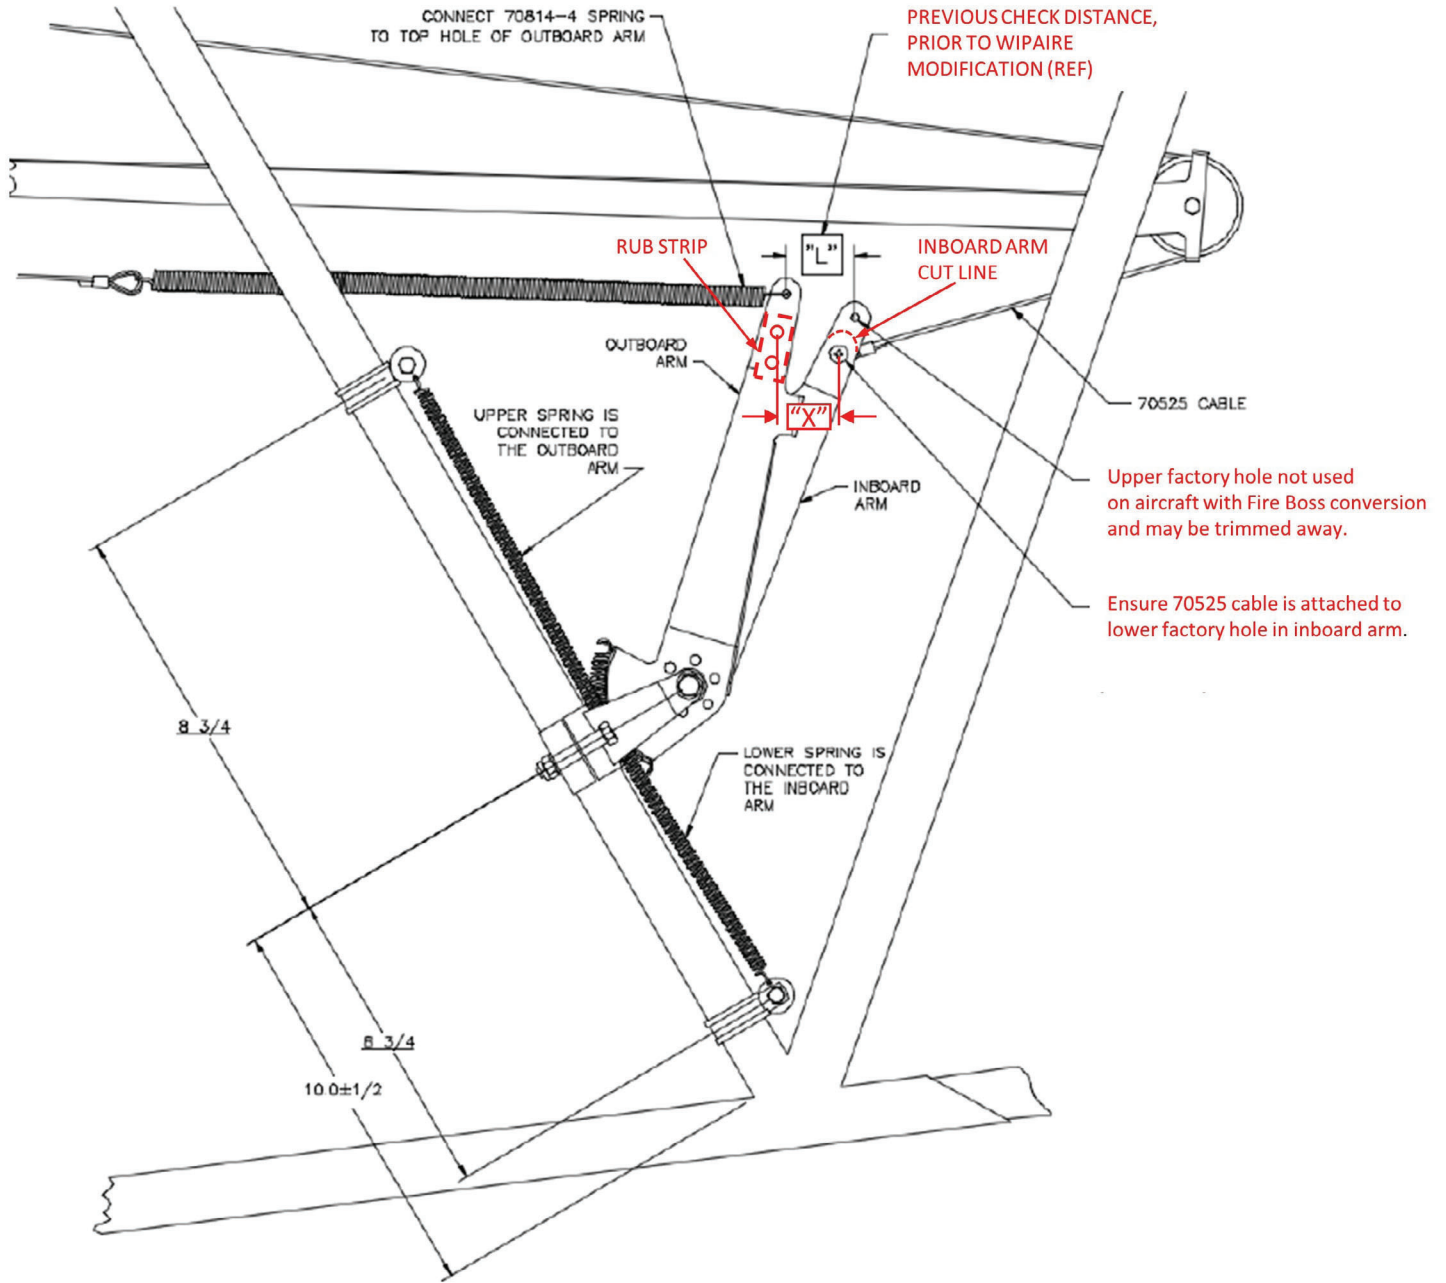

Figure 2
2. Check the position of the clamp that supports the two idler arms. This clamp should be 10.0 (+/- 1/2) inches from the interface of the longeron and diagonal tube. See figure 2. If necessary, loosen the clamp, adjust it within this range, and retighten hardware.
3. Check the position of each centering spring. Ensure that the Adel clamp anchoring each spring is located at a position of 8-3/4 (+/- 1/16) inches from the center of the clamp. See figure 2. Adjust the position of the Adel clamps if necessary.
6. Ensure that the 70525 interconnect cable is connected to the lower factory hole in the inboard idler arm. See figure 2.
10. Measure the horizontal spread of the idler arms using the lower factory hole* in each arm, shown as dimension "X" in Figure 2. This dimension should measure between 1.577" and 1.690" (approximately 1-37/64 to 1-11/16 inches). In addition, both sides must match within 1/16 inches.